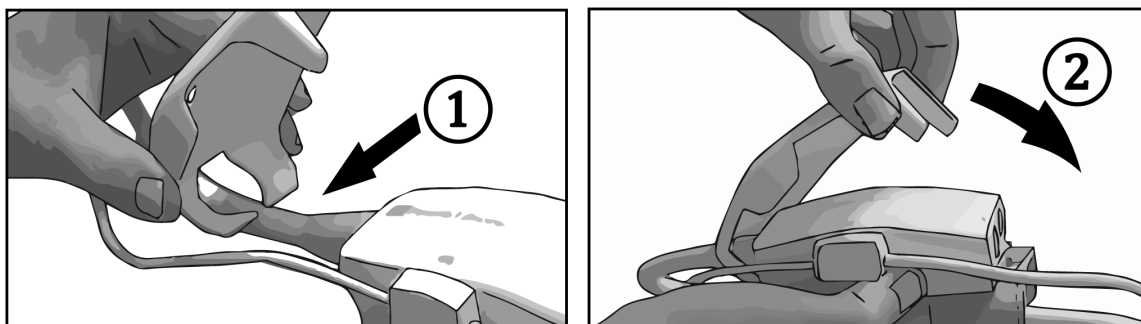

Figure B-1: Applying pressure controller cover
2. Place the pressure controller cover's back mounting notch around the pressure controller cable. See step 1 in Figure B-1 on page 382.
3. Snap the pressure controller cover over the pressure controller, making sure that the pressure controller cover does not interfere with the heart reference sensor (HRS) connection. See step 2 in Figure B-1 on page 382.